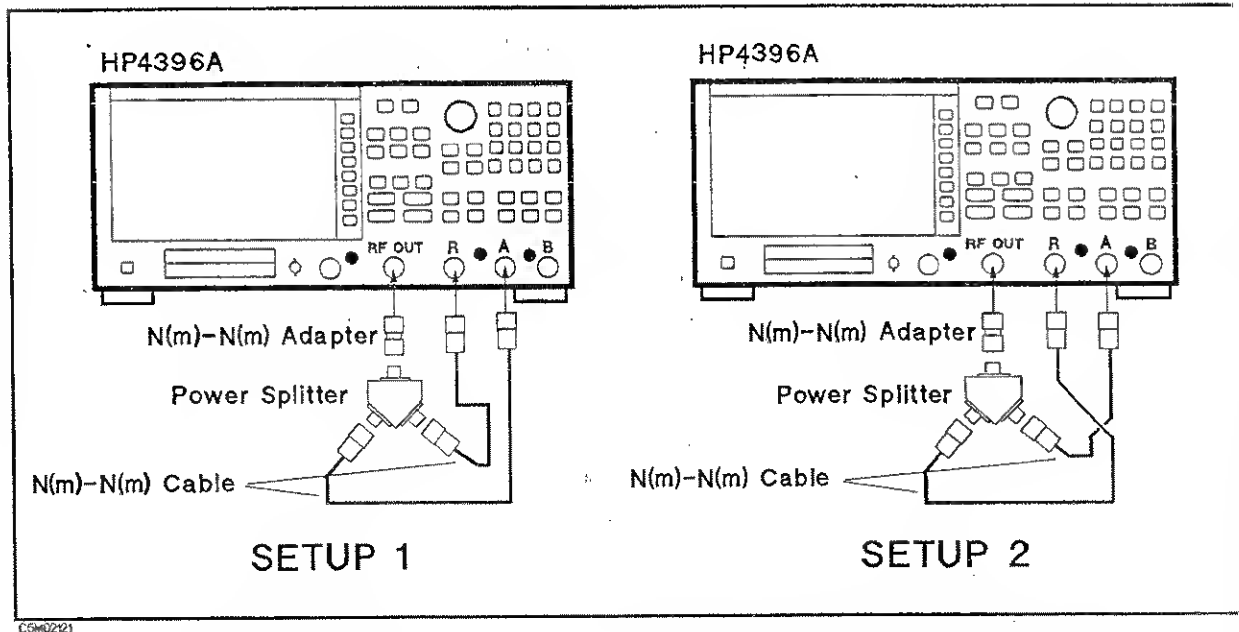

Figure 2-16. A/R Magnitude Ratio/Phase Frequency Response Test Setup
- a. Connect the test equipment as shown in setup 1 of Figure 2-16.
e. Reverse the cable connections of the HP 4396A A and R inputs as shown in setup 2 of Figure 2-16.
o. Connect the test equipment as shown in setup 1 of Figure 2-16.
s. Reverse the cable connections of the HP 4396A A and R inputs as shown in setup 2 of Figure 2-16.